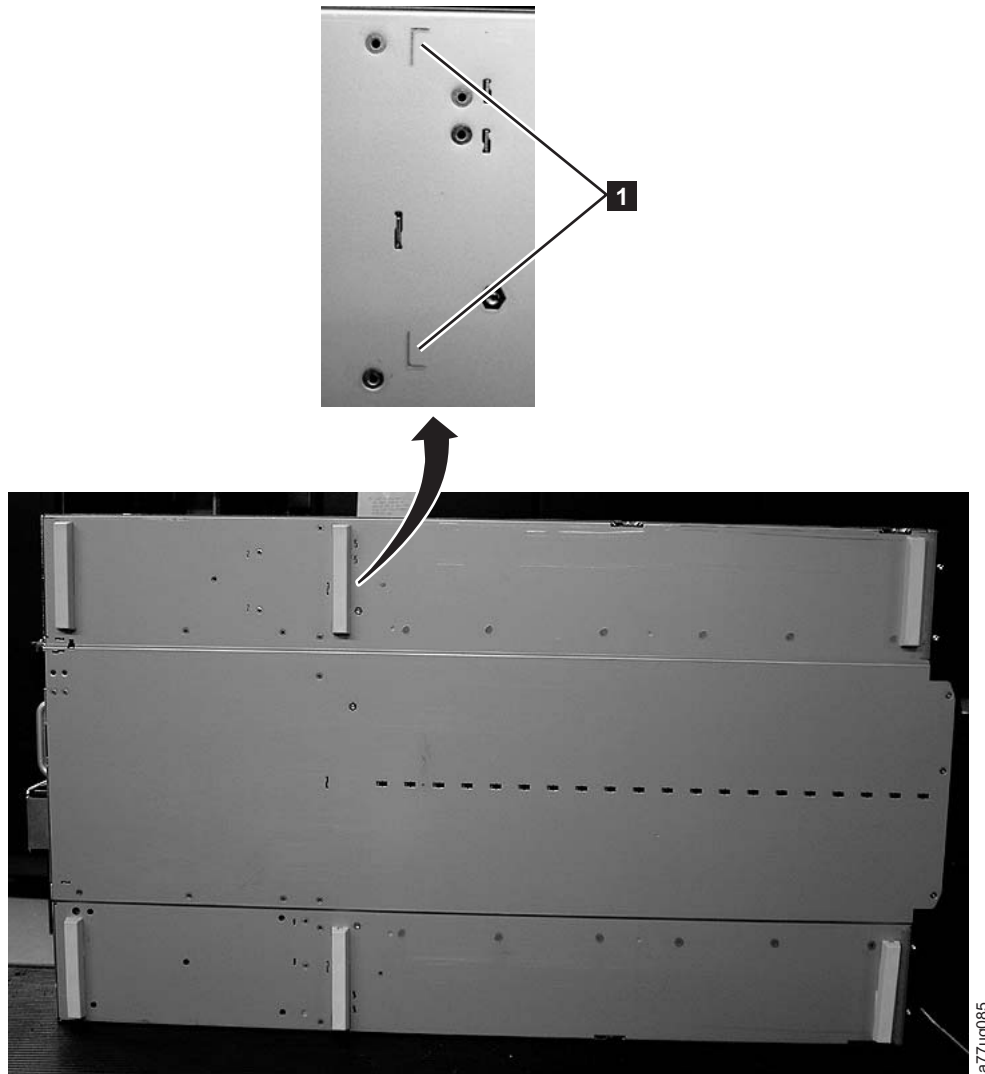

Figure 10-13. Foot pads installed on the bottom of the library enclosure
- 3) Install the foot pads on the bottom of the library enclosure by pressing each foot into one of the six areas ( **1** ) as shown in Figure 10-13.